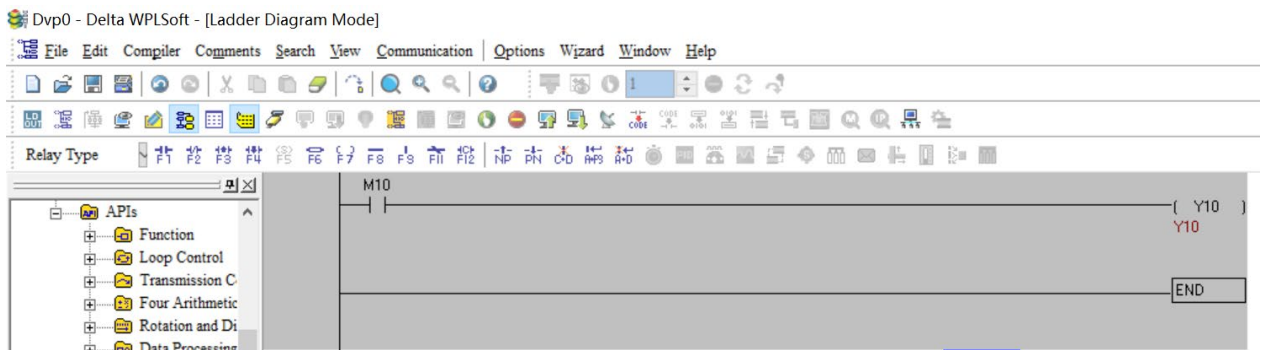

Figure 13-3-4-17
Step 5. Click  **Ladder Diagram=>Command** button to convert the edited ladder diagram to the commands. After compiling is finished, the number of rungs (steps) appear on the left side of the busbar, as Figure 13-3-4-18 shows.